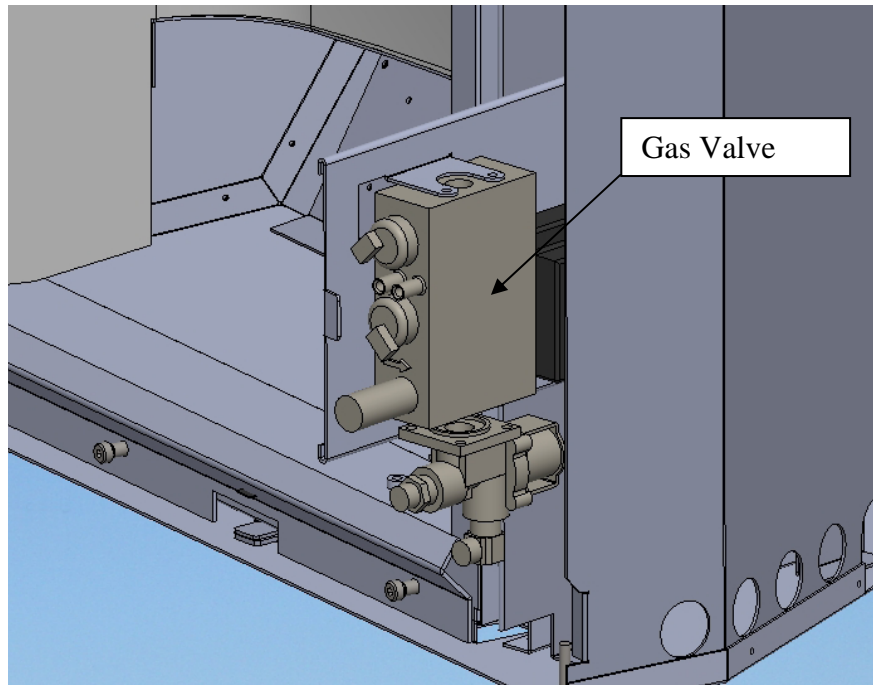

**Figure 2**
6. Locate the pilot assembly inside the right side of the firebox (see *Figure 2*). Remove the easy-off top of the pilot burner hood by grasping it and pulling it up, and off the pilot assembly.